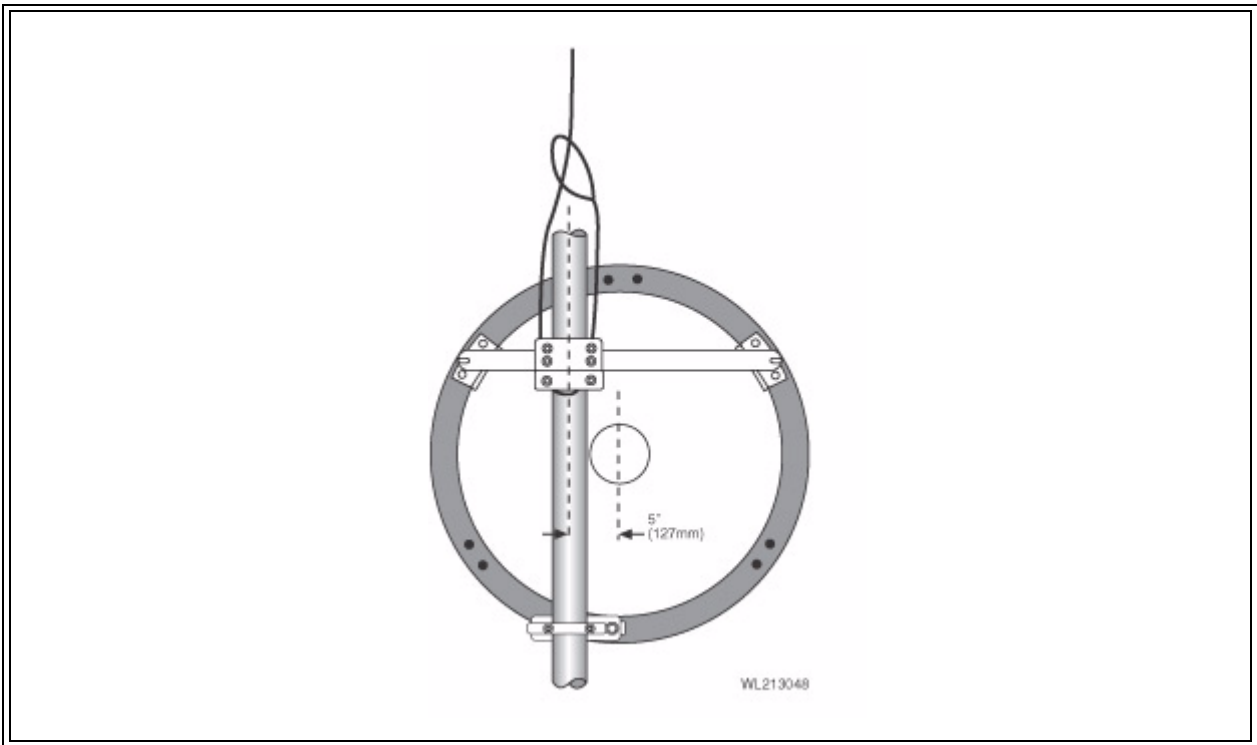

Figure 4-30 Hoisting the Antenna
- 41 Attach a hoist strap around the vertical assembly or the horizontal assembly as shown in Figure 4-30. Do not hoist by the elevation rod. Make sure that the vertical assembly is unobstructed where it will mount against the mast pipe.